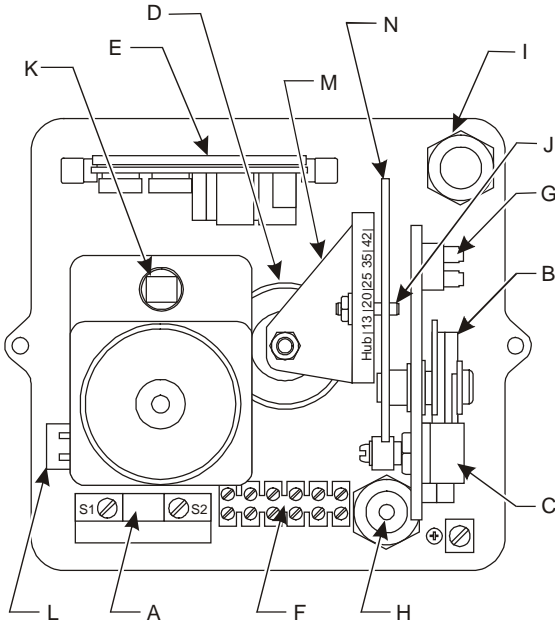

Figure 2: VA-3100 Series Electric Valve Actuator with Cover Removed (View Looking Down)
9. Verify that at least a 1/8 in. (3 mm) gap exists between the transfer arm and the gear (as viewed from the side of the actuator). Refer to Figure 2 for parts identification.
17. Verify that at least a 1/8 in. (3 mm) gap exists between the transfer arm and the gear (as viewed from the side of the actuator) for VA-3100-AGC and VA-3100-HGC models. Refer to Figure 2 for parts identification.
1. Refer to Figure 2 to locate the auxiliary switches.